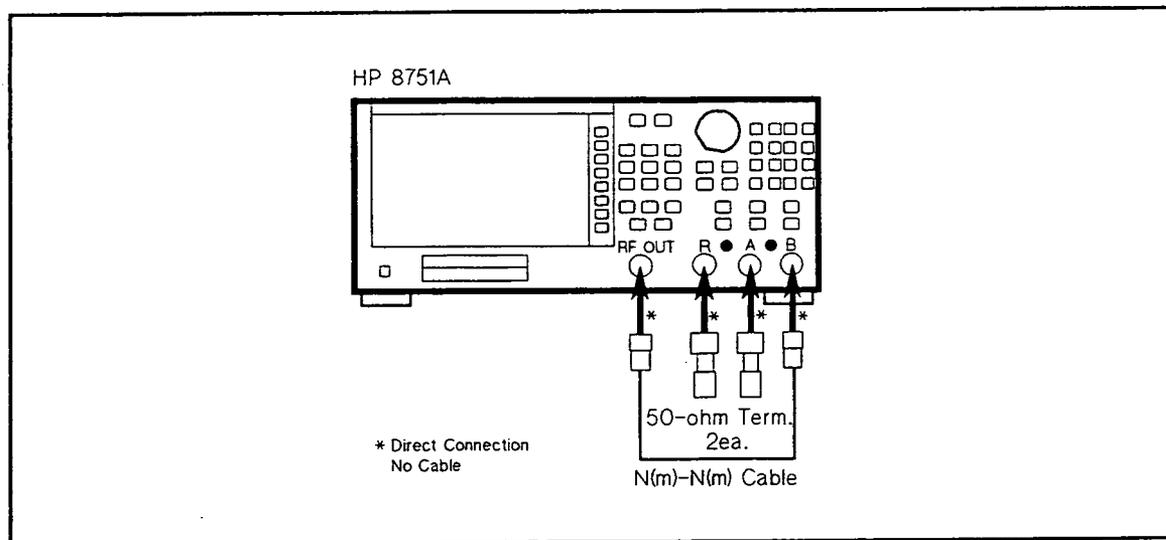

Figure 2-14. Crosstalk Test Setup 3
a. Connect the equipment as shown in Figure 2-14.